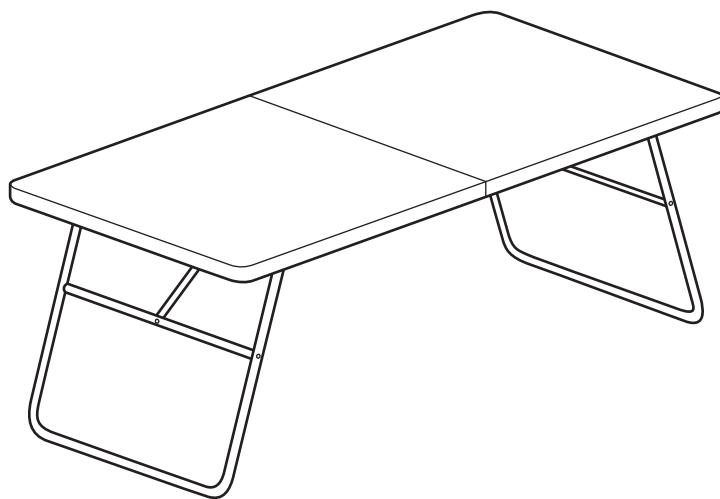

Fig. 6
Fig. 6 shows a folding picnic table.
- (a) Give **four** design requirements for the picnic table shown in Fig. 6.